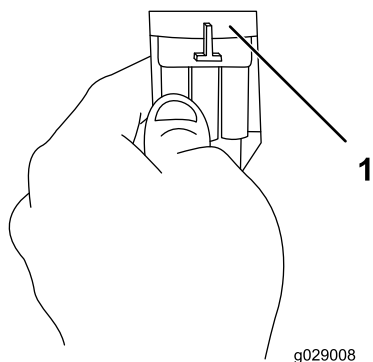

Figure 8
- Unplug the fuel-stop solenoid wiring harness from the main wire harness plug connector (Figure 8).